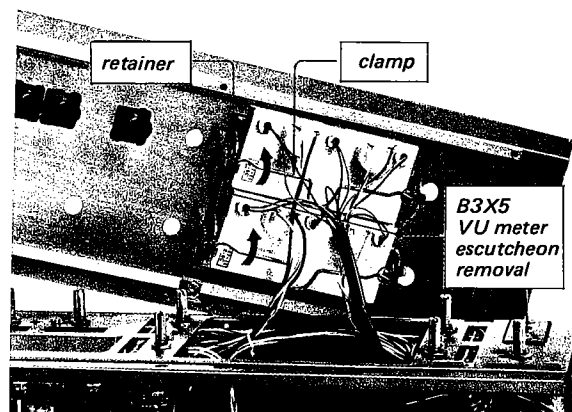

Fig. 2-4. VU meter escutcheon removal
1. Remove the VU meters, then loosen the four screws securing the retainer shown in Fig. 2-4.
2. Turn the tab of retainer in the direction shown by the arrows in Fig. 2-4.